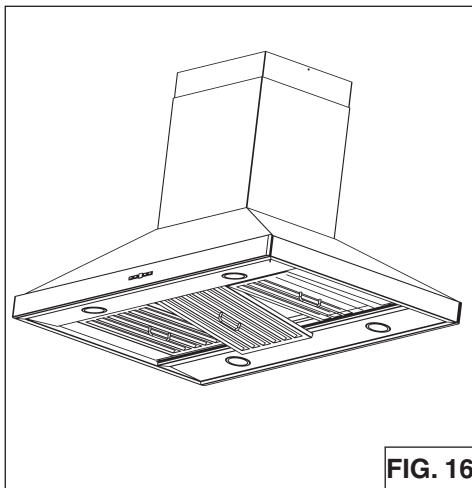

FIG. 16
1. To remove the GREASE filter, (Fig.16) push the filter towards the front so that it clears the filter channel, then pull down on the handle to disengage the filter from the hood. Tilt the filter downward and remove.